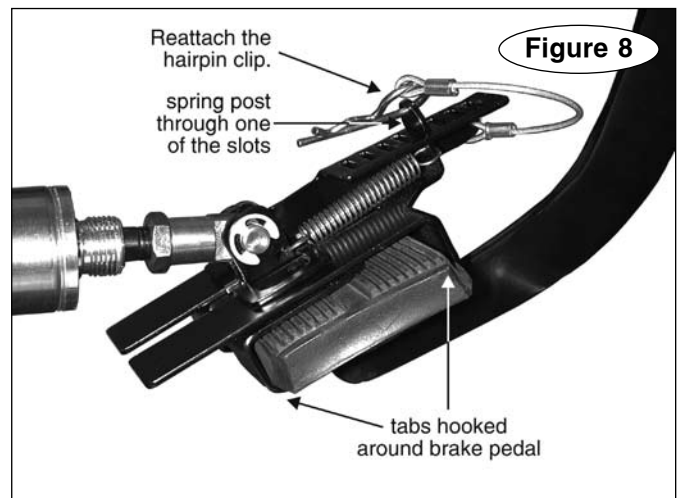

Figure 8
10. Fit the pedal clamp onto the brake pedal, so that all four tabs are hooked around it (Figure 8). Then, release the spring post.
11. Swing the slotted arm back over the spring post, fit the spring post through one of the slots, and reattach the hairpin clip (Figure 8).